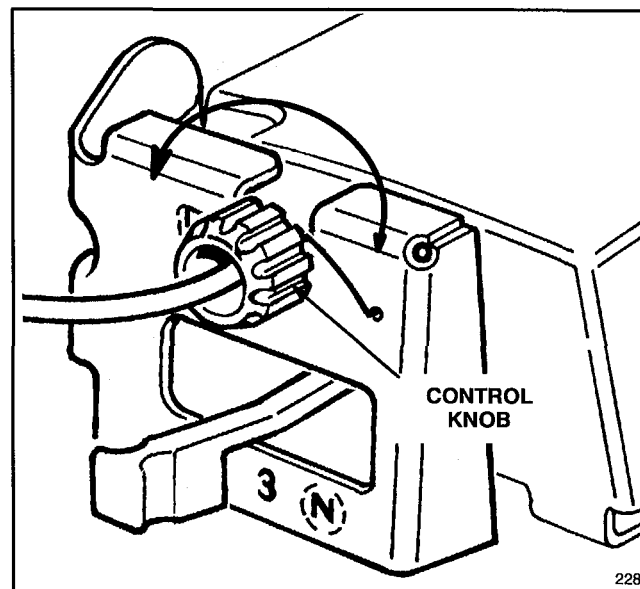

Figure 24
2. ADJUSTMENT (Fig. 24)—Rotate control knob clockwise 1/2 turn if mower does not self-propel. If mower creeps forward, rotate knob 1/2 turn counterclockwise to loosen belt.